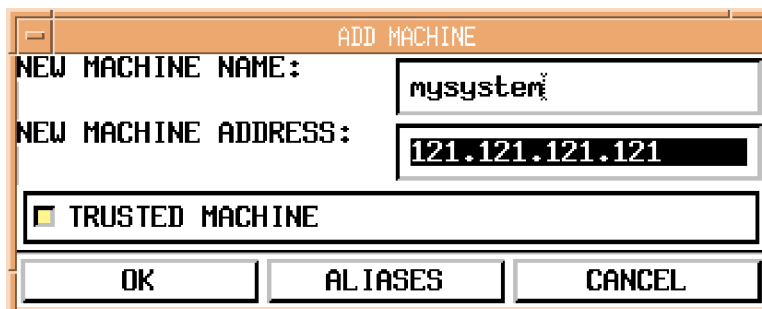

Figure 23. ADD MACHINE Window
STEP 1: Click on the ADD button. The ADD MACHINE window appears (Figure 23).